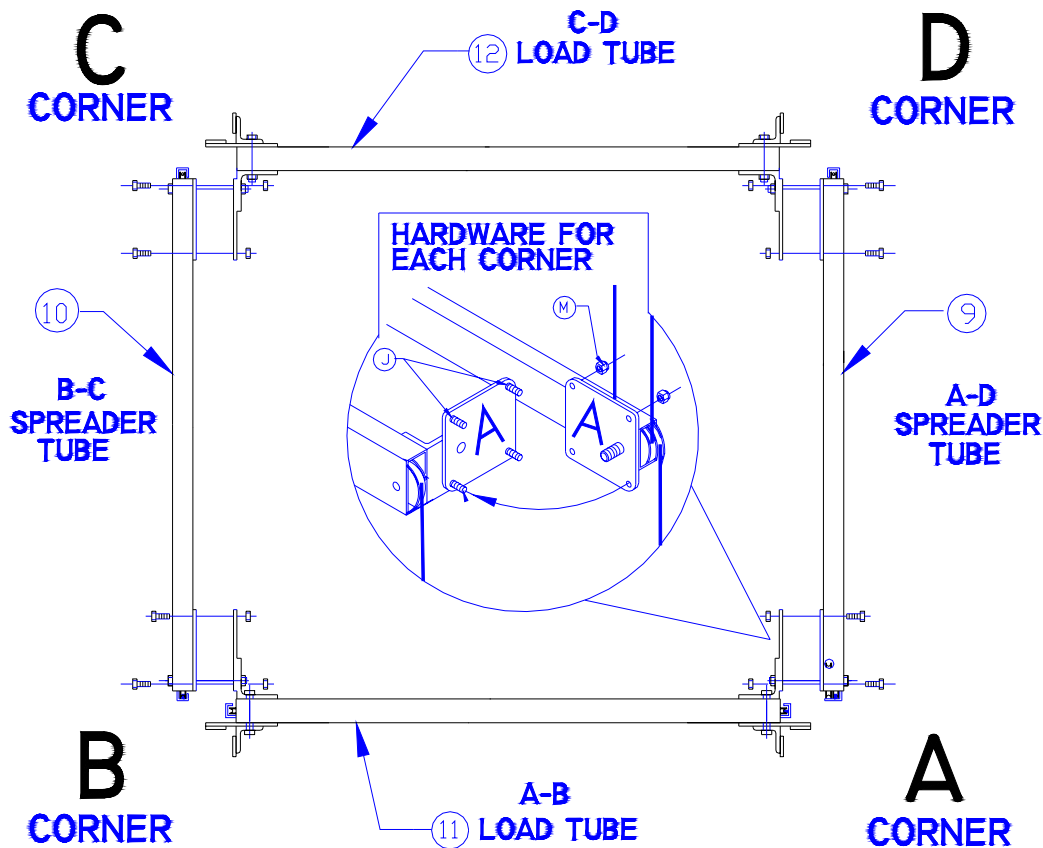

Figure 3-5
1. Refer to Figure 3-5. Position both load tubes and spreader tubes on the ground as shown in the diagram.